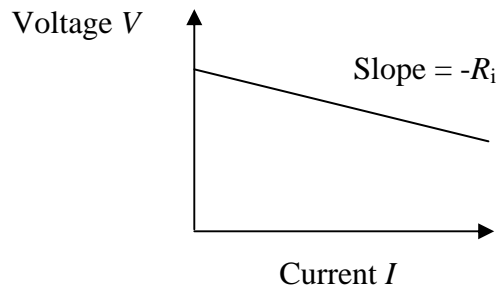
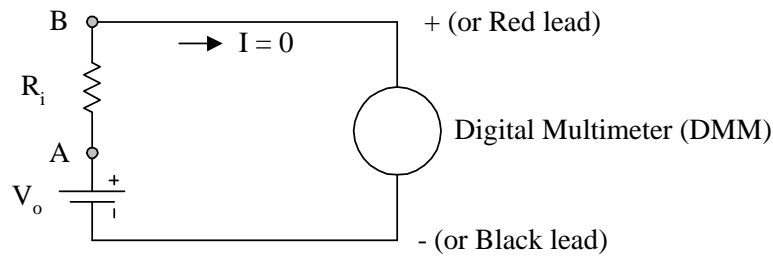

Figure 4
Figure 5
The relationship between V and I as given by (1) can be represented graphically as shown in Fig. 4.
The open circuit voltage of a battery can be measured by connecting a digital multimeter (properly set to voltage) across the battery without connecting any load resistance, as shown in Fig. 5. The digital multimeter (DMM) is equivalent to a very high resistance and hence the current flowing in the circuit is 0. From eqn. (1) the DMM therefore reads $V = V_0$.
It is not possible to measure R_i directly by using the DMM to measure the resistance between A and B in Fig. 5. This is because this resistance is a result of the internal workings of the battery and the point A in the circuit is inaccessible. It can, however, be measured by plotting a graph like Fig. 4.
Draw the V versus I graph on the following graph paper, similar to Figure 4. Include the measured open circuit voltage on the graph.